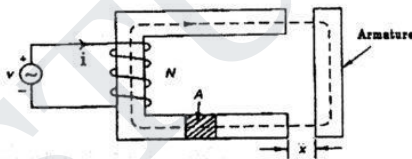

Fig. 13 (a)
- b) Draw and explain the phasor diagram of transformer when it is operating under load. (13)
13. a) The electromagnetic relay shown in Fig. 13 (a) is excited from a voltage source of $v = \sqrt{2} V \sin \omega t$. Assuming the reluctance of the magnetic circuit to be constant, find the expression for the average force on the armature, when the armature is held fixed at distance x . (13)